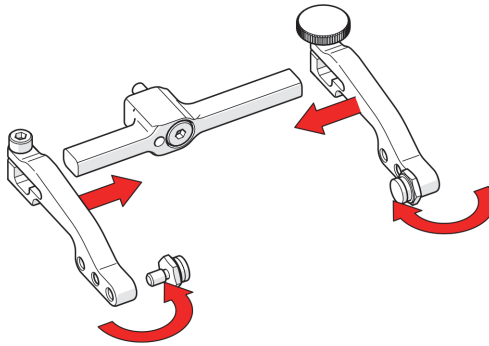

Figure 2-90 Attach arms and move buttons
5. Using a 0.375 in. wrench, place the pivot buttons on the inside of the probe holder arms (see Figure 2-90 on page 107).